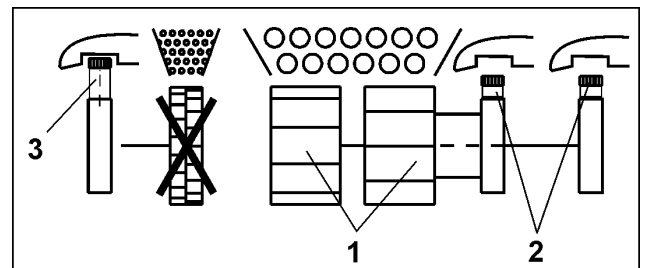

Fig. 62
For sowing with both metering wheels (Fig. 62/1)
- Drive in thumb bolts (Fig. 62/2) of the main metering wheels
- Drive out thumb bolt (Fig. 62/3) of the fine seed metering wheel.